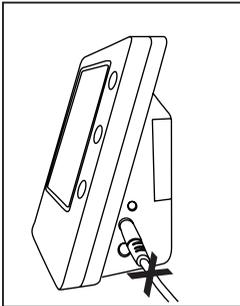

Fig.17
- 1) Disconnect the charger from the instrument if connected.(Fig.17)